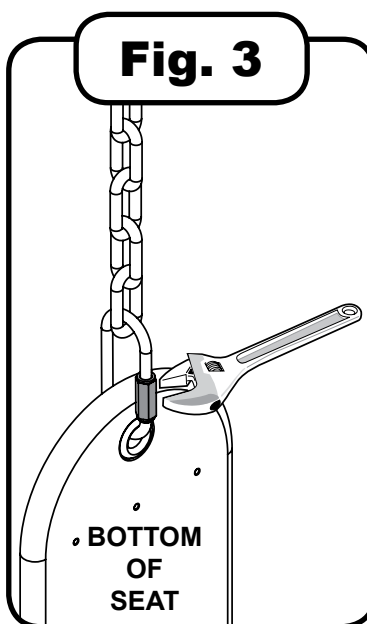

Fig. 3
3. Close and tighten the Quick Link Sleeve with an appropriate wrench as shown. Once tightened the seat should be securely attached and the Quick Link should not be easily loosened, as shown in (Fig. 3).